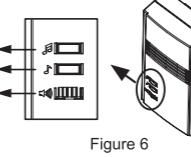

Figure 6
Press Button A (Figure 6) until you hear the desired 8 Note, 2 note, or 1 Note chime.
The volume adjustment knob C (Figure 6) enables you to adjust the volume of your chime at any time.
While plugged into an electrical outlet, press and hold button A and B (Fig. 6) until the chime sounds. The chime will play all of the chimes available indicating that previous programs have been erased. Return to the Program the Plug-in Chime and repeat this section.
Your Extender and Chime haven't been programmed. Reset the automatic programming of your chime and Extender by Pressing and holding down chime selection buttons A and B (Figure 6) for 5 seconds. The chime will sound all of the sounds available indicating the programming has been erased. Program the Extender following the installation instructions.
Lorsque l'article est branché sur une prise de courant, appuyez sur les boutons A et B (fig. 6) et maintenez-les enfoncés jusqu'à ce que le carillon sonne. Le carillon émettra toutes les sonneries musicales disponibles afin d'indiquer que les configurations précédentes ont bien été effacées. Retournez à la section Configuration du carillon enfilable (CE) et refaites les étapes.